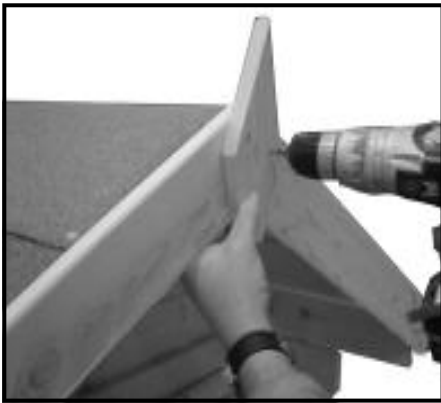

Fig K2
2. Drill diamond and screw with 2x50mm screws . (fig K2)